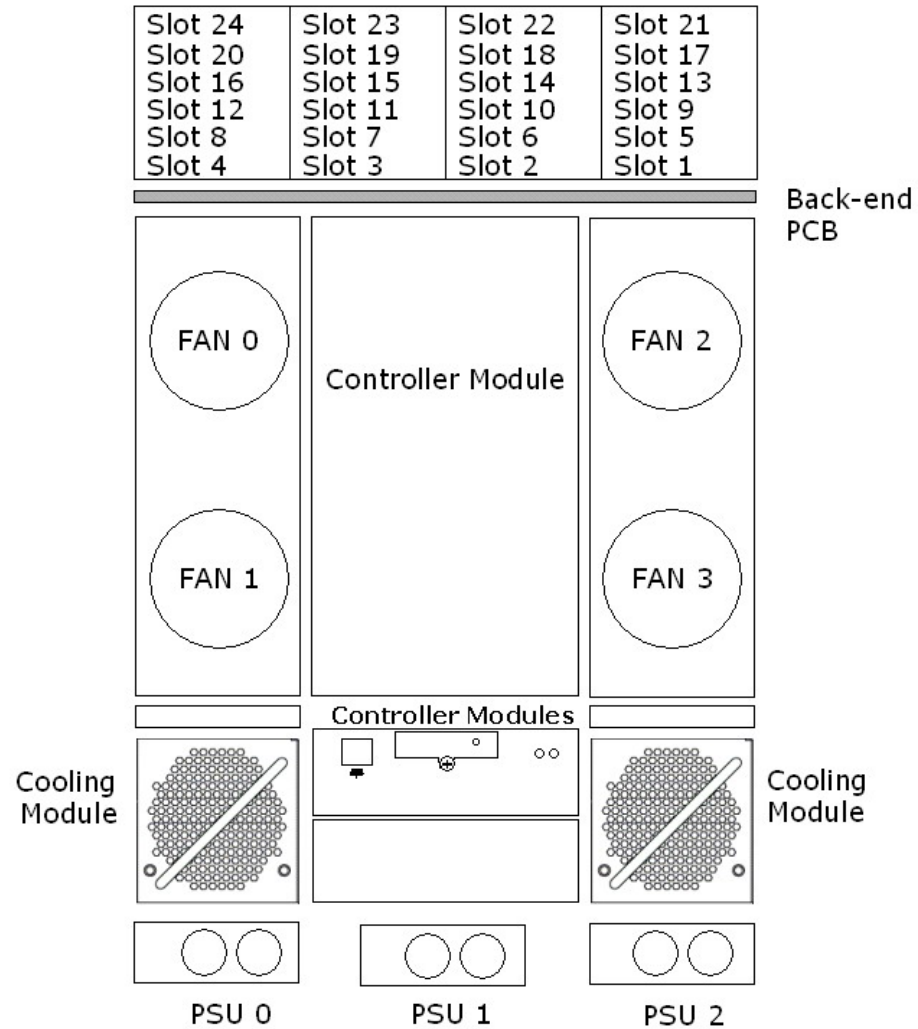

Figure 1-2: Galaxy RAID 24 Bay Subsystems Overview
The Galaxy RAID 24 Bay Subsystems enclosure is a 4U metal chassis. A back-end PCB is enclosed in thick gauge sheet metal that divides the enclosure internally into front and rear sections. (See *Figure 1-2*) The front section accommodates twenty-four (24) drive trays (with their associated hard drives) and the rear section accommodates three (3) PSU modules, two (2) dual-fan cooling modules, and a single RAID controller module. The two (2) foldable handles on the front of the chassis enable you to easily insert/extract the chassis into/from a rack cabinet. Pre-drilled holes in the sides of the 4U RAID subsystem enclosure allow you to attach separately purchased slide rails so that you can install the enclosure into a standard 19 inch rack cabinet.